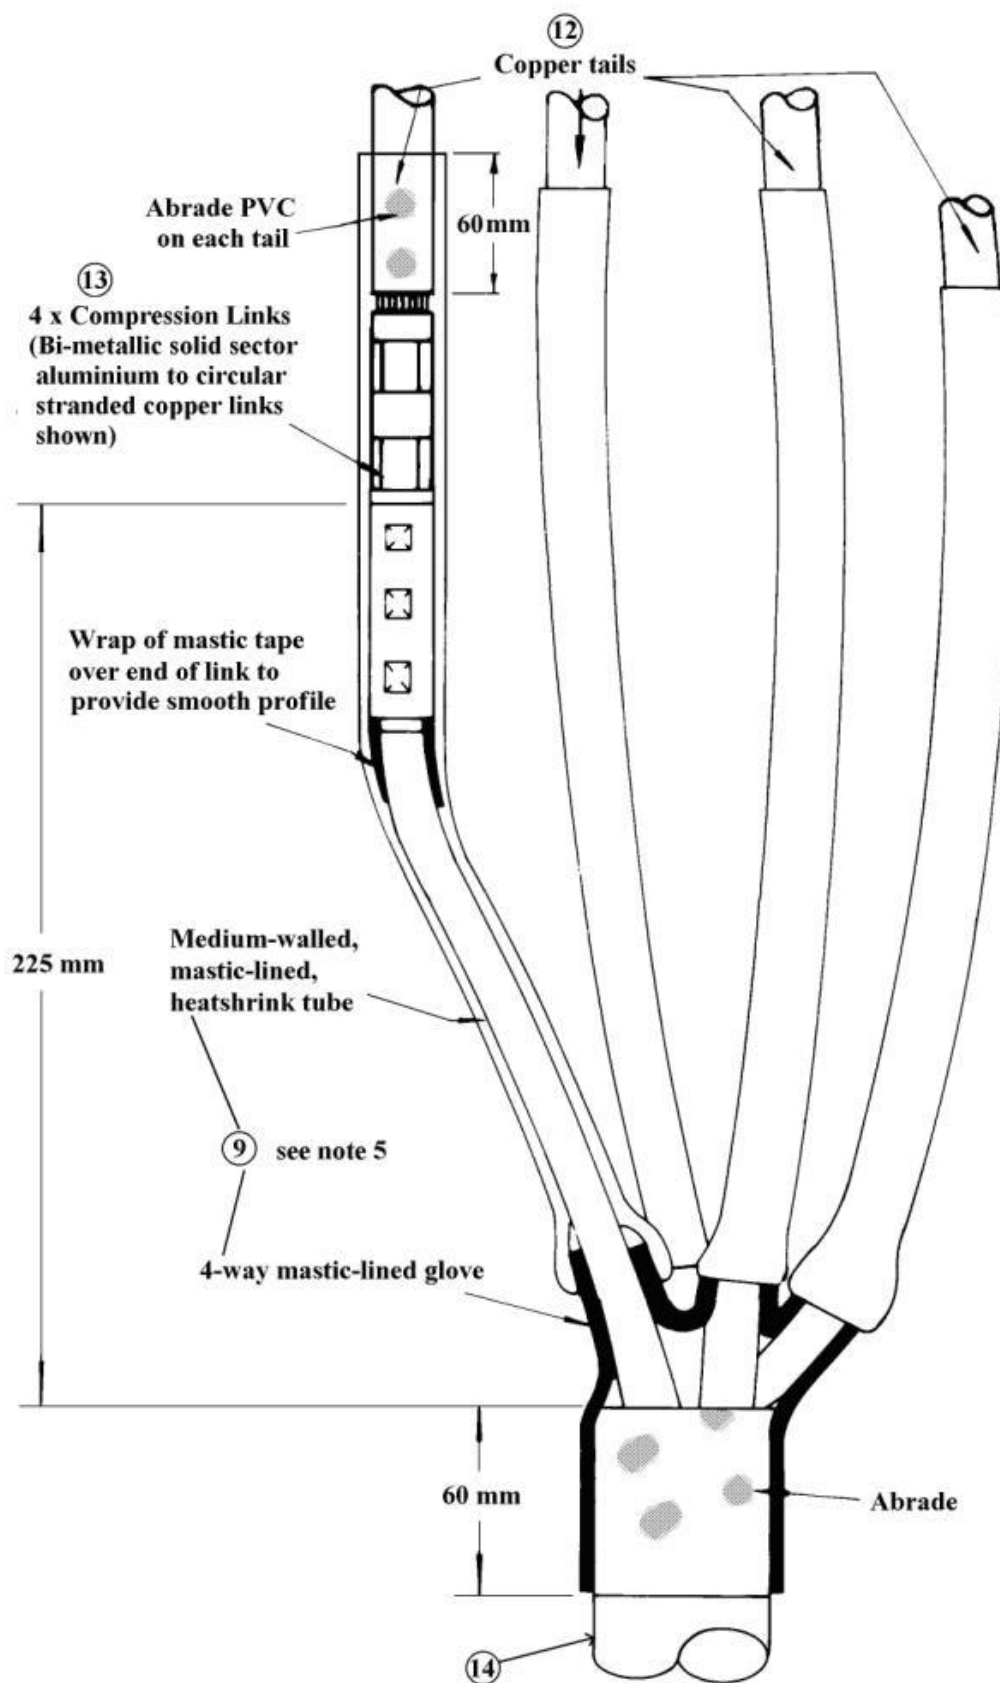

Figure 7.2 – Cable Termination Details
4. Abrade the cable sheath to the dimensions shown on Figure 7.2.